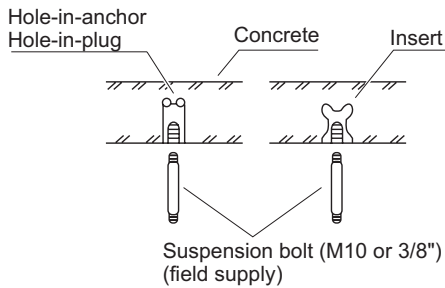

Fig. 2-113
- Insert suspension bolts as shown in Fig. 2-113
- (2) Screw in the suspension bolts allowing them to protrude from the ceiling as shown in Fig. 2-113. (Cut the ceiling material, if necessary.)